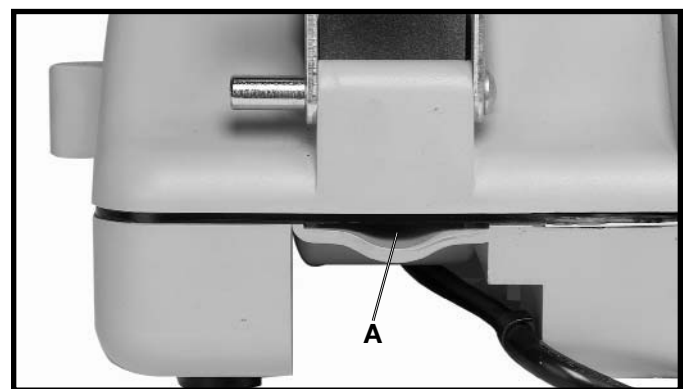

Fig. 5
8. Fill the water trough until the water is almost reaching the level of the drainage opening (A) Fig. 5, in the rear of the machine. The water trough should be checked and refilled periodically during use.
11. When finished grinding with the utility sharpener, disconnect machine from power source and tilt the machine to the rear to drain the water through the opening (A) Fig. 5.